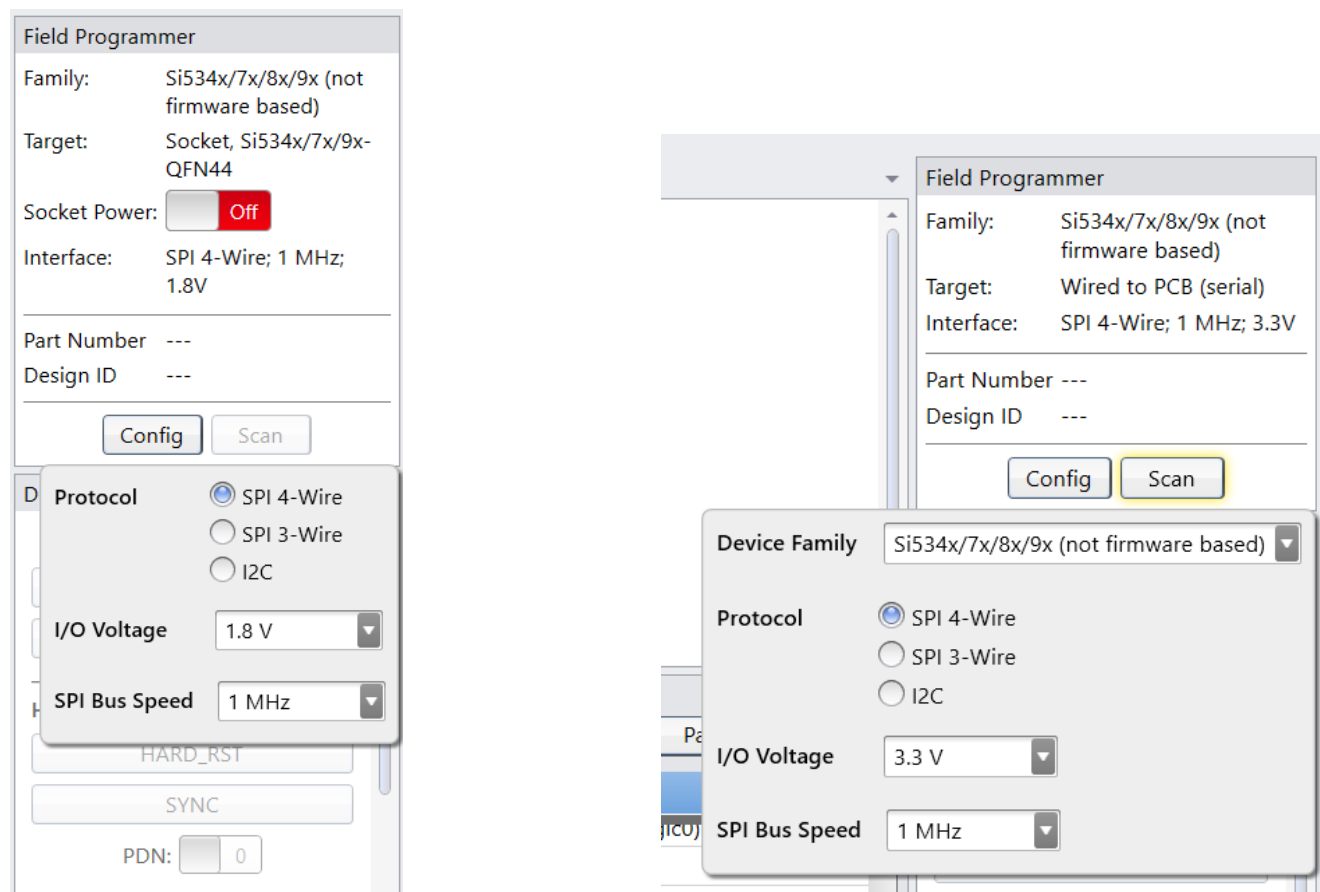

Figure 76. Configuring Communication Settings
- d. If communication is successful, the device part number and design ID will be updated. If communication is not successful, the part number field will display -ERR- and the DUT register tab will be disabled. Configuring communication settings are shown in “Figure 76. Configuring Communication Settings” on page 55.